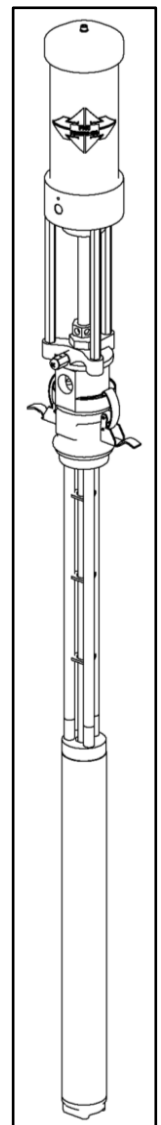

Figure 10: PMC GHO Transfer Pump
9. Install the Material Transfer Pumps (*Figure 10*) as follows: